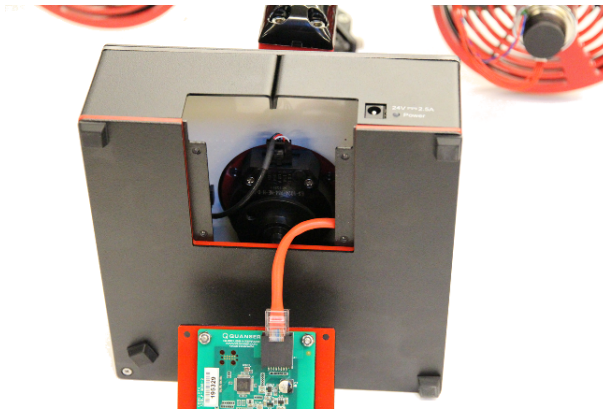

Figure 3.1: Quanser Aero with QFLEX panel detached.
3. Remove the four screws at the corners of the QFLEX panel to release the panel from the Aero chassis. The Quanser Aero is shown in Figure 3.1 below with the screws removed.